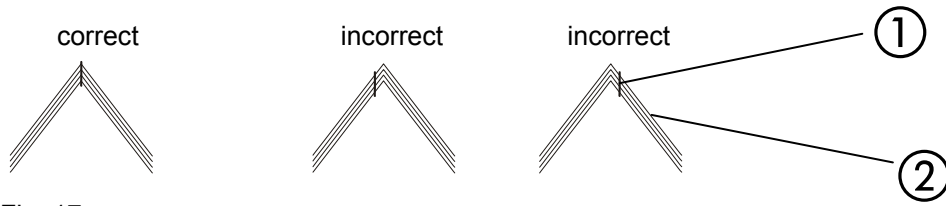

Fig. 17
The spine centering parts are only used for saddle stitching. They help to precisely position the stitch ① in the center of the sheet fold ② (- cf. Fig. 17 -)